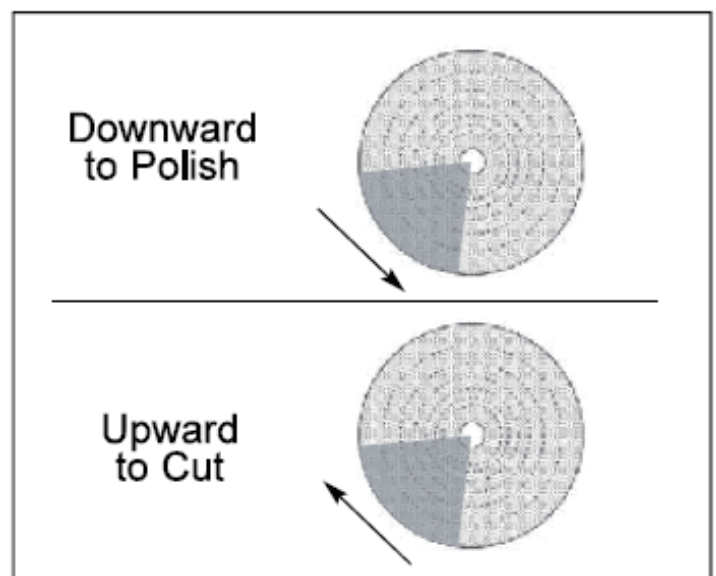

Figure 5. Cutting and Polishing strokes.
- Use an upward stroke with heavy to moderate pressure cutting. Use a downward stroke with light pressure for polishing. See Fig. 5